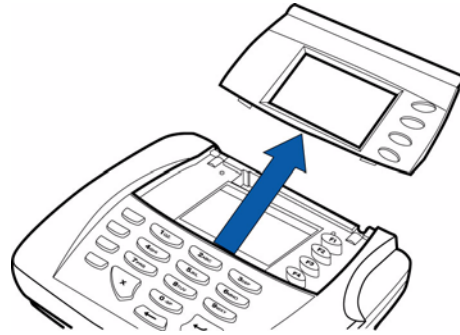

Figure 14 Lift Off Lens
- 1 Lift off the lens as shown in Figure 14.